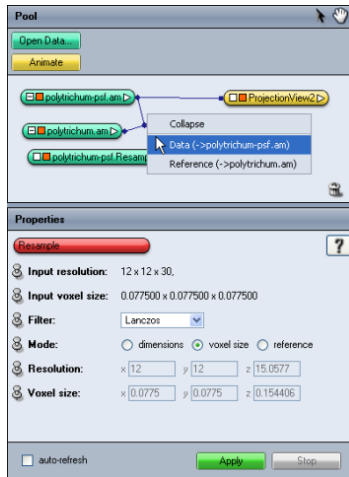

Figure 10.2: Resampling a PSF using the *Resample* module.
- In the *Mode* port of the *Resample* module, choose *voxel size* (see Figure 10.2).